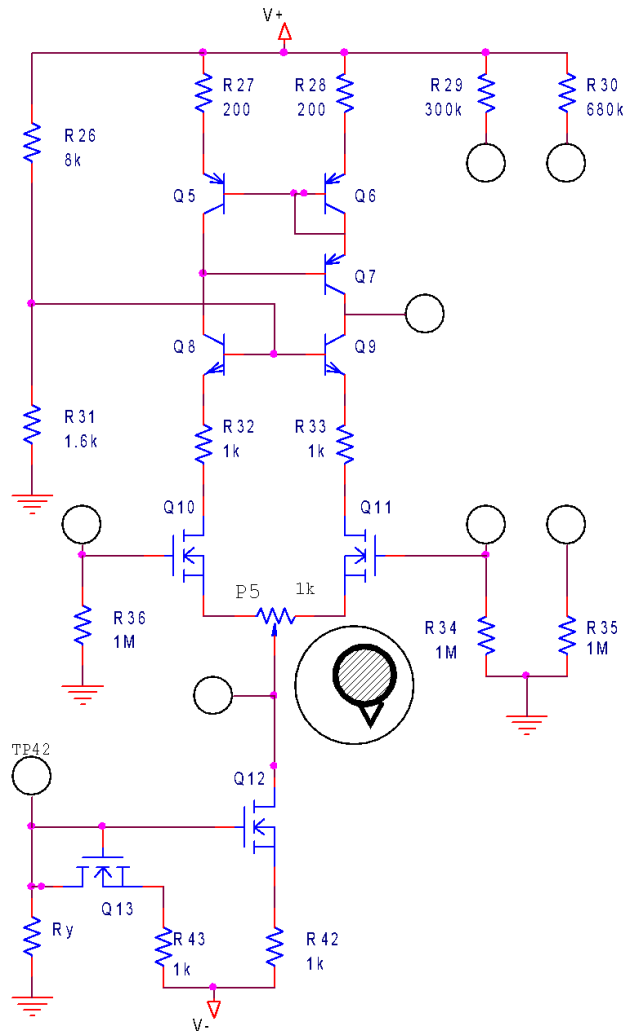
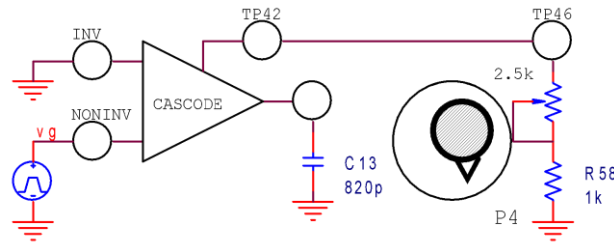

Figure 4
Figure 8
In the following procedure, you will analyze the slew-rate effect of the cascode circuit. To demonstrate this idea, let us consider the circuit in Figure 8. In this circuit a dominant capacitor is connected to the output, and a potentiometer is connected to the current-source of the cascode:
6.3. Use PSPICE to simulate the circuit in Figure 8. Set potentiometer P5 to 50% (in Figure 4) and $R_y = (5 + \frac{D}{2})$ k Ω . Assume the potentiometer P4 is set to (ABC/10) percent of its maximal value. Choose Vg (the relevant shape and value) in order to satisfy the following: